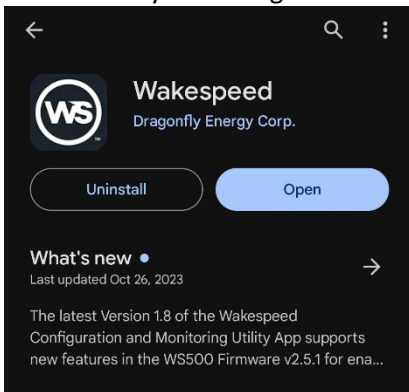

Figure 11
- Open Wakespeed app on the android device. If it's not installed yet, install the Wakespeed app (see Figure 11) on the device by searching for it in the Google Play store and selecting install.